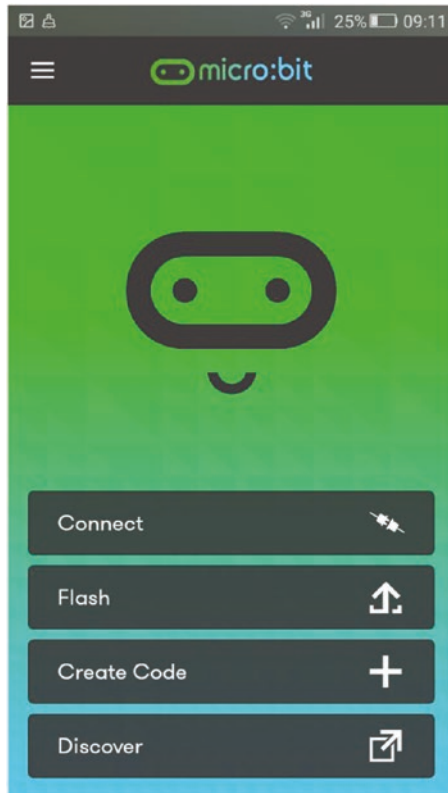

Figure B-1. Tapping the Connect button
2. Tap the Connect button (see Figure B-1).